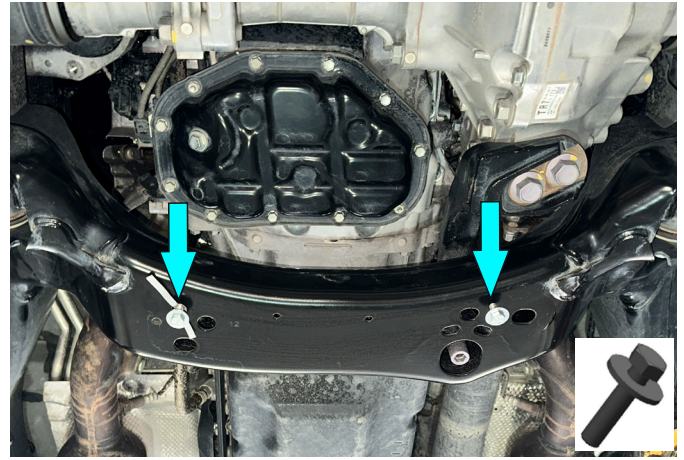

Fig. 2
2. Loosely install supplied M8x30 bolts with M8 washers (items B, C) as shown in Fig. 2.